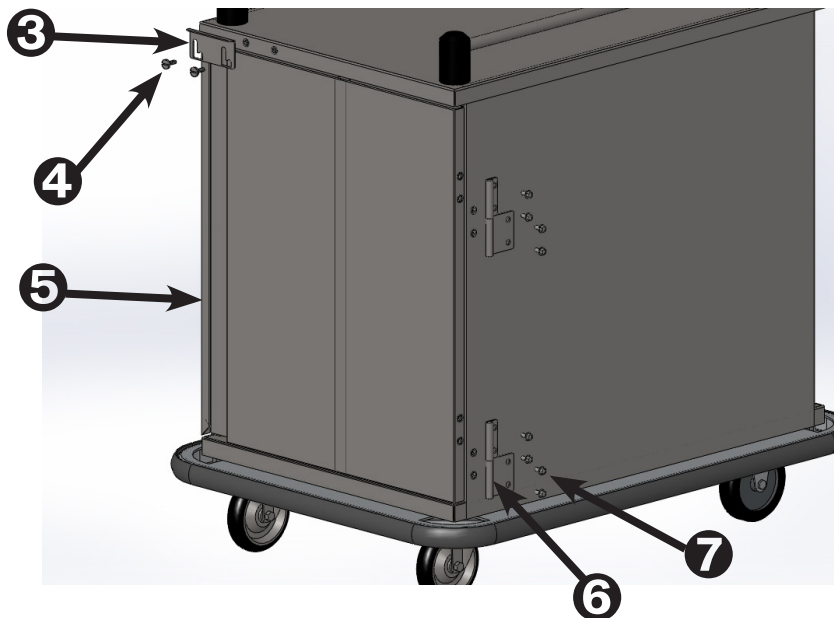

Figure 4
Step 3: Install the door hinges to the cabinet and the door with the 1/4-20 bolts supplied in the kit using a 7/16" socket or wrench. (See Figure 4)
Step 4: Install the transport latch using the 1/4-20 Shoulder bolts supplied in the kit using a standard flat blade screwdriver. (See Figure 4)